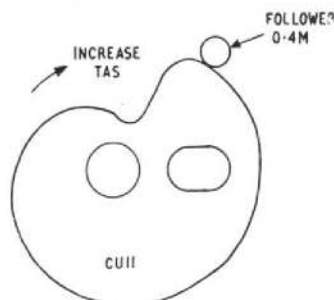

Fig. 15. Adjustment of T.A.S. cam CU11 from underside
**106.** Check that when the 200T gear of axis 2 (fig. 12) is displaced one turn against the servo action and released it makes only one overshoot in each direction before coming to rest. RV1 (Chap. 7, fig. 15) should be adjusted if necessary to achieve this.
**107.** Connect the valve voltmeter set to the 10V range across capacitor C1 (Chap. 7, fig. 15) ensuring that the earth terminal of the meter is connected to the end of the capacitor nearer the motor tachogenerator. The voltage should not exceed 5V.
**112.** Set S6 to 0.4 and check that the follower of CU7 comes to rest in a position approximating to that shown in fig. 13. If it does not, release the three 6 B.A. screws clamping RV3 (Chap 7, fig. 15) and turn the potentiometer until cam CU7 and follower are positioned correctly. Reclamp the potentiometer.
**114.** Connect up subsidiary test equipment as shown in fig. 1 with the wander lead connected to pin 3 of RV4. Set S6 test set, Type 9B to 0.4, the dividing box to 9840 and switch the dividing box to 20V (X). The valve voltmeter should register a null; RV2 (Chap. 7, fig. 15) should be adjusted if necessary to obtain this null.
**127.** Set test set, Type 9B T4 to 5060, S5 to OFF and S6 to 0.4; check that the follower of CU11 is approximately in the position shown in fig. 15. If necessary release the three 6 B.A. screws clamping RV4 (Chap. 7, fig. 17) and turn the potentiometer until the follower is in the correct position. Reclamp the potentiometer.